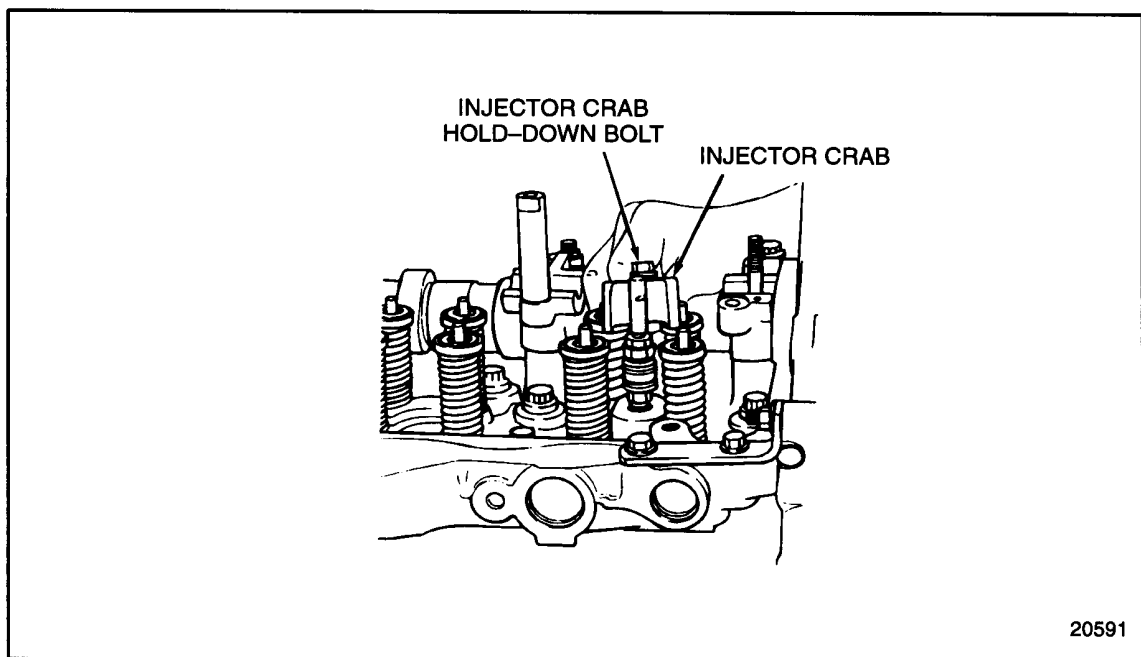

Figure 29-4 **Injector Hold Down Crabs**
9. Install the injector hold down crabs and torque the hold down bolts to 58-66 N·m (43-49 lb·ft). See Figure 29-4.